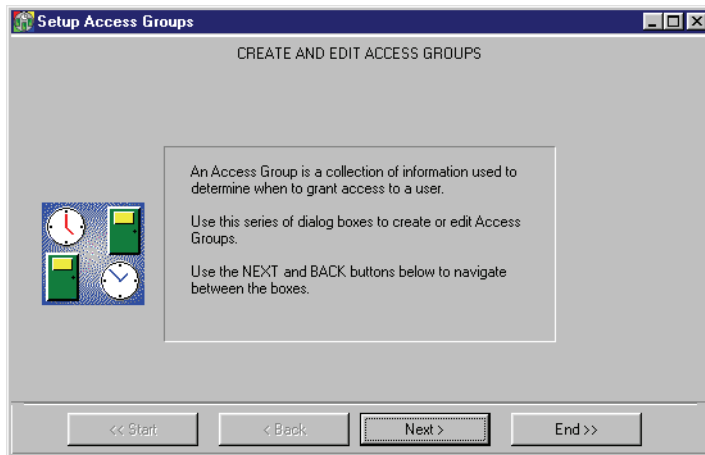

Figure 3-39: Create And Edit Access Groups - Entry Window
1. To edit an access group, click on the Setup ⇒ Access Groups pull-down menu or click on the  tool bar button. The Create And Edit Access Groups window appears (see Figure 3-39).